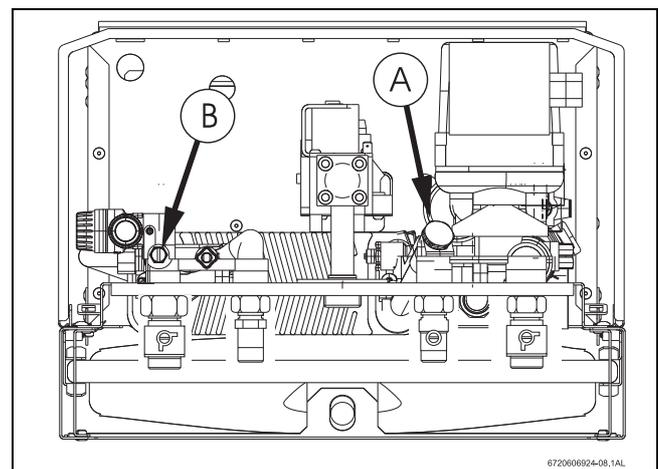

Fig. 27
- ▶ Dévisser le couvercle (→ Fig. 27, Pos. A).
- ▶ Dévisser la vis de vidange (→ Fig. 27, Pos. B).